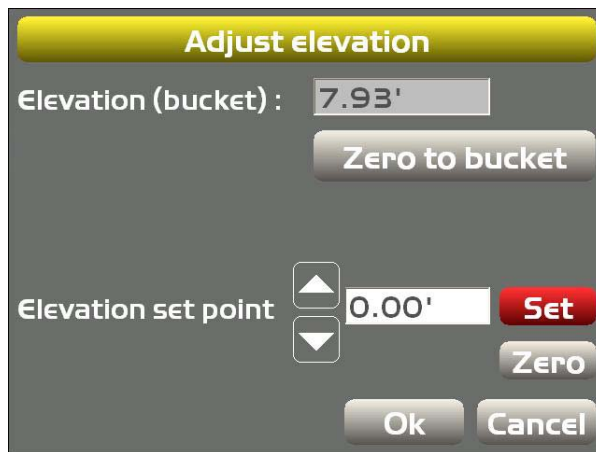

Figure 35: Zero to Bucket
2. Tap **Zero to Bucket** (Figure 35)